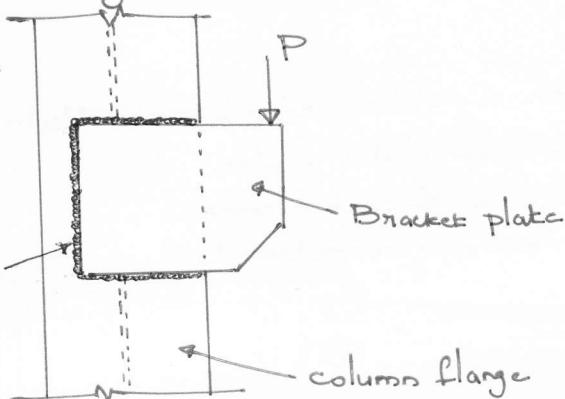

Fig. 1.0 Bracket connection.
- iv) Detail of a bracket in the plane of the flange of a column using fillet weld as shown in Fig. 1.0